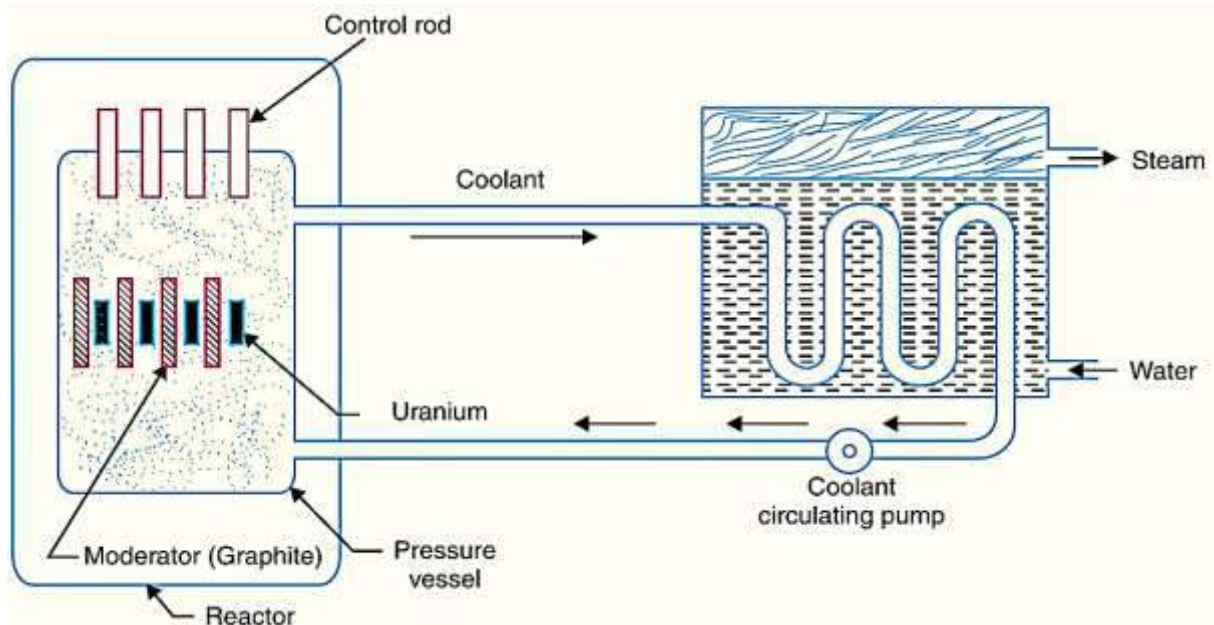

Fig. 7: A nuclear reactor
- A nuclear reactor is a cylindrical pressure vessel and contains fuel rods of Uranium, moderator and control rods (See Fig.7).